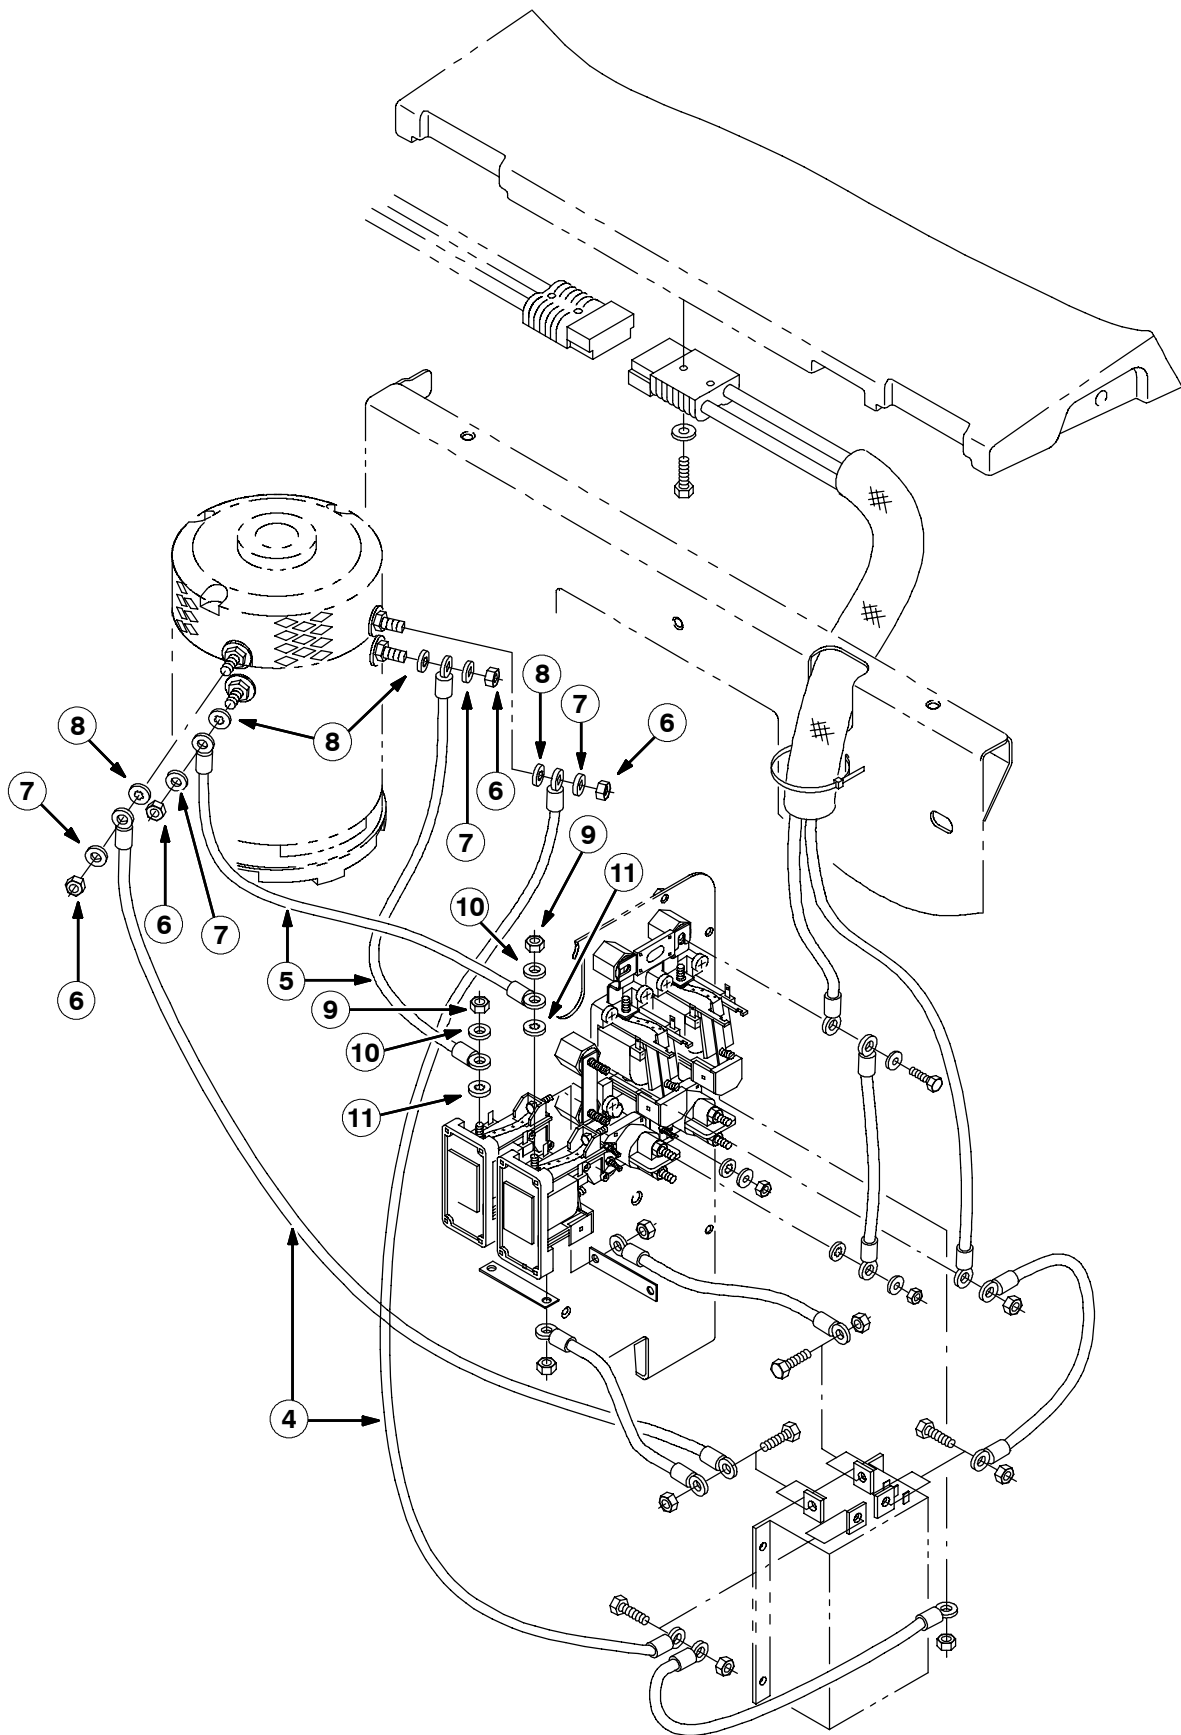

FIG. 2 - New Cable And Hardware Installation, Propel Motor
(Refer to Fig. 2 and Fig. 3)
9. Connect each new 4 gauge wire (5), to each of the lower posts (S1 and S2) on the propel motor, with new nuts (6), flat washers (7), and lock washers (8) as shown in Fig. 2. Hand tighten the mounting hardware.
1. Carefully route the 4 gauge wire from post S1 to the inside contactor. Route the 4 gauge wire from post S2 to the outside contactor. Connect the wires to the contactors with new lock washers (11), flat washers (10), and nuts (9) as shown in Fig. 2. Hand tighten the mounting hardware.
2. Connect each new 2 gauge wire (4), to each of the top posts (A1 and A2) on the propel motor, with new nuts (6), flat washers (7), and lock washers (8) as shown in Fig. 2. Hand tighten the mounting hardware.
3. Carefully route the 2 gauge wire from post A1 to the inside post on the motor controller. Route the 2 gauge wire from post A2 to the outside post on the motor controller. Connect the wires to the posts on the motor controller with set aside hardware as shown in Fig. 2. Hand tighten the mounting hardware.